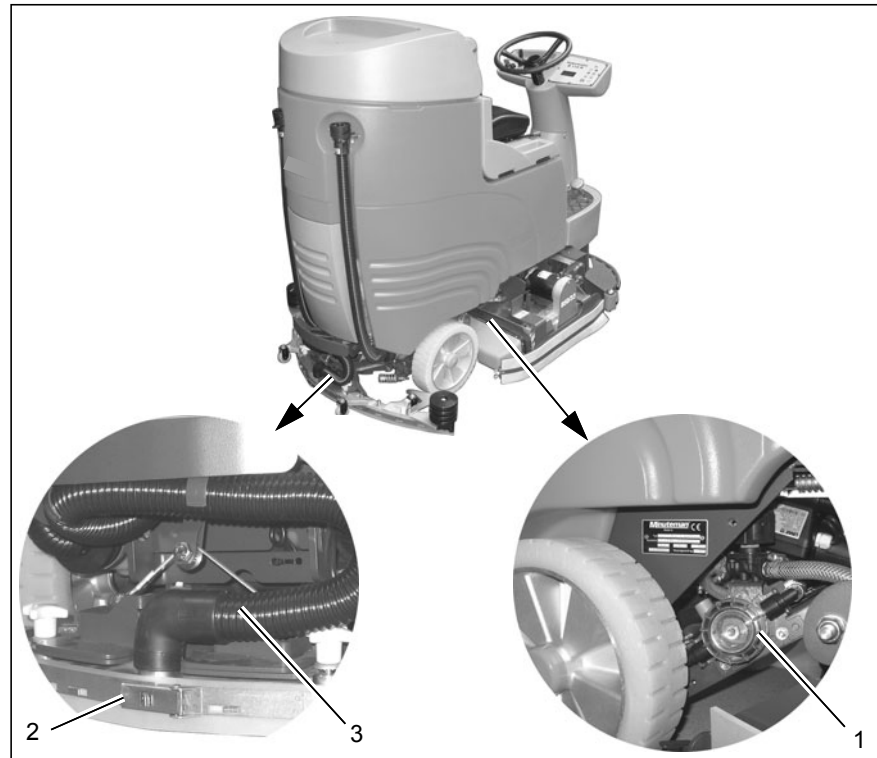

Fig.16
4. Check the clean water filter (Fig. 16/1).
5. Check the sealing strips (Fig. 16/2) and suction hose (Fig. 16/3).